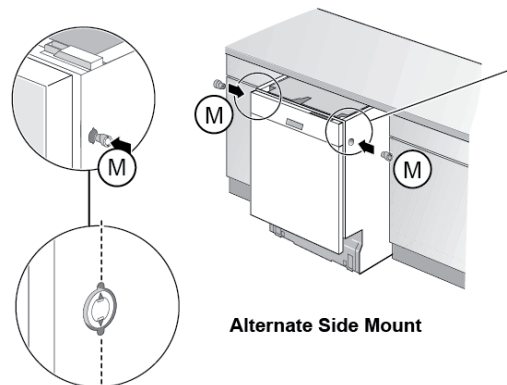

Figure 19
Alternate Side Mount for opening 23^{5/8}" (600 mm). Insert a side mount force distributor (M) in each side as shown in **Figure 19**.